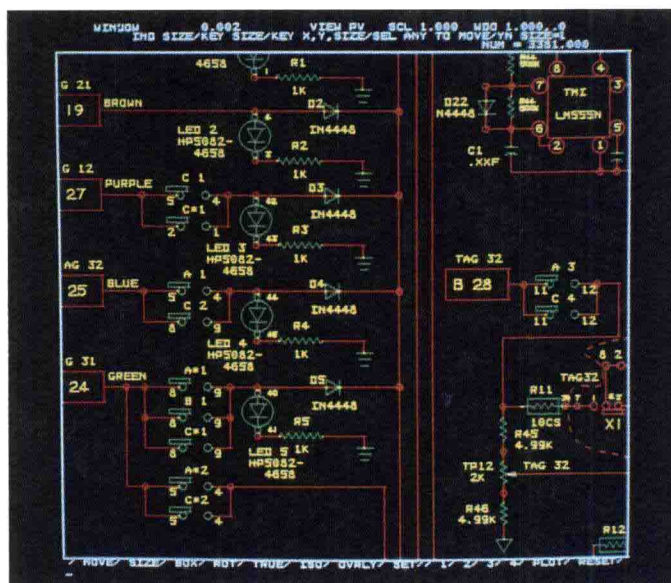

Fig. 1-7. Electronics drafting involves designing circuits for electrical and electronic products. (CADAM)
**Electronics drafting.** *Electronics drafting* involves the design and layout of circuits, parts, and wiring for electrical and electronic products, Fig. 1-7. The initial layout is often done by inserting predrawn symbols that represent standard electronic parts. A drafter can manually add the lines that connect parts or have it done automatically by routing software.